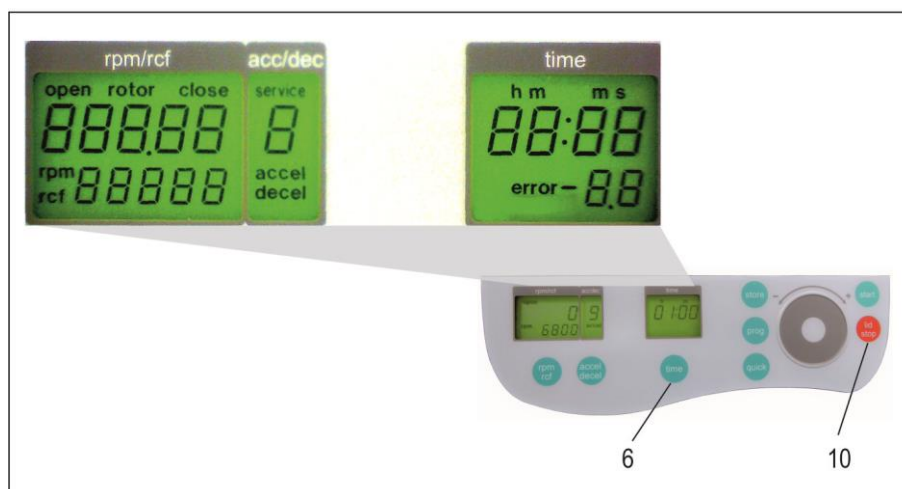

Figure 2
Open the centrifuge lid and shut off the main switch. Now switch on again the main switch. For approximately 3 seconds the software version and the model type will be shown in the display (see Figure 1). Press during this time the keys "time" (6) and "lid/stop" (10) simultaneously. As a result, a display test is administered for approx. 3 seconds. All possible indications will appear at the same time (see Figure 2). The LED light is flashing alternately with green and red color.